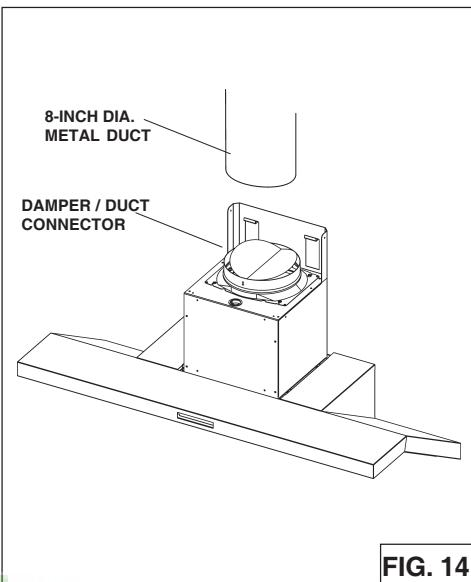

FIG. 14
1. Remove protective tape from blower outlet before installing damper to hood with (4) screws supplied and tape joint with aluminum duct tape (Fig.14).